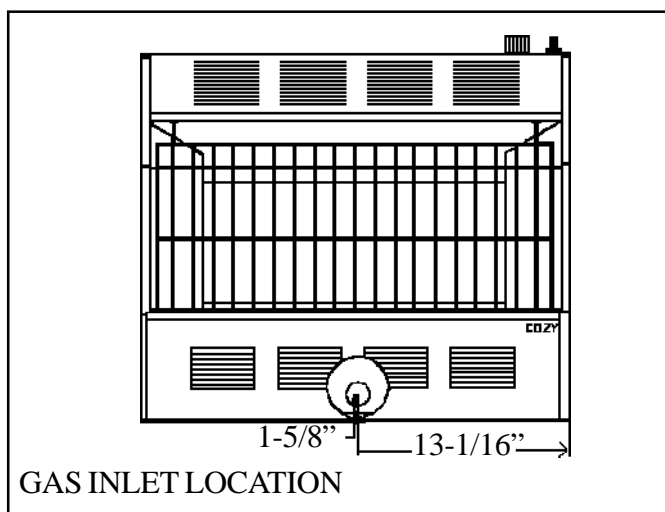

FIGURE 2
- 2) Install at least a 1/2" diameter gas supply line. (Gas supply can enter through bottom or back of heater). See Figure 2.